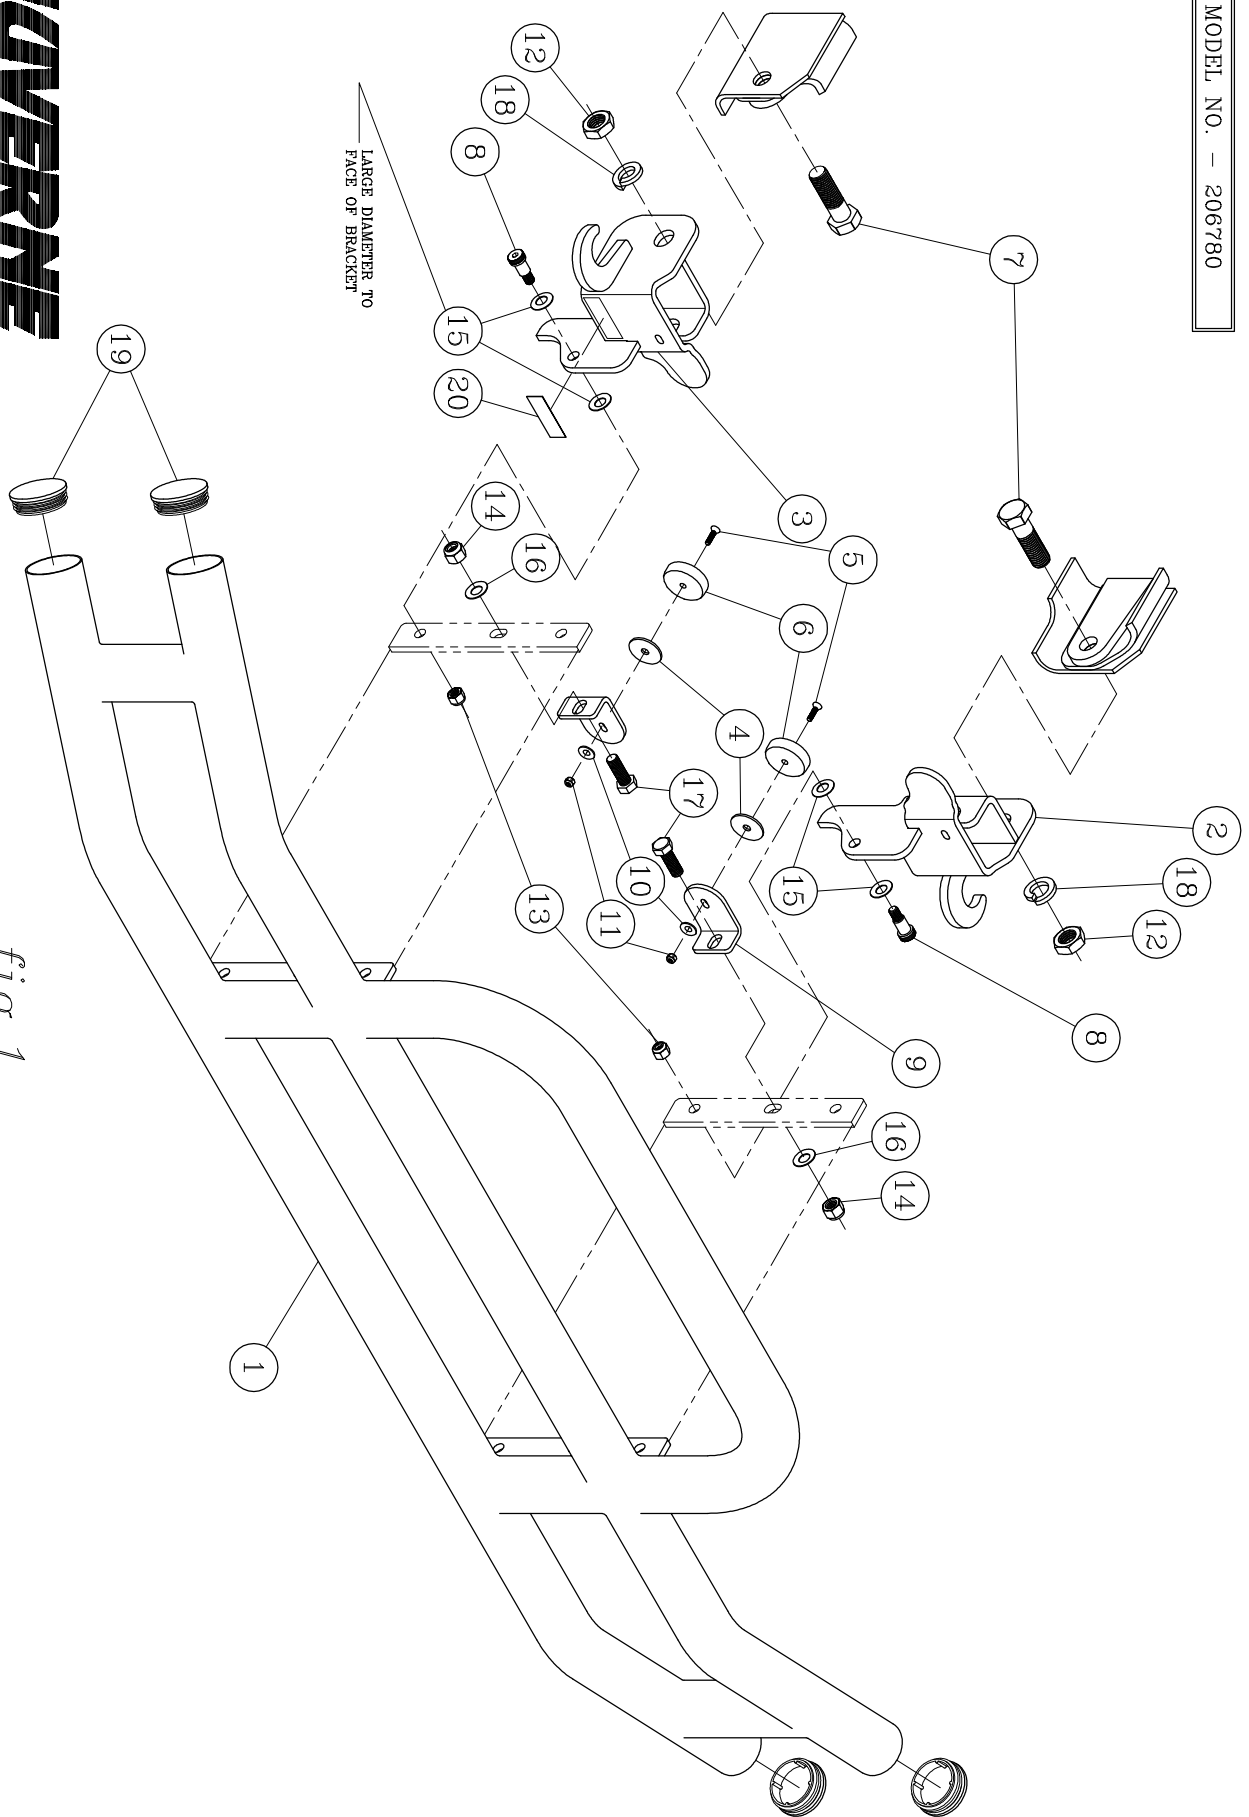

fig. 1
3. USING THE 5/8"-11 X 1-3/4" BOLTS (ITEM #17), AND 5/8"-11 NYLOCK NUTS (ITEM #14), AND 5/8" FLAT WASHER (ITEM #16), ATTACH MAGNET & MAGNET BRACKET (ITEM #6 & 9) TO THE MOUNTING BARS OF THE GRILLE GUARD, AS SHOWN IN FIG 1.
5. HOLD THE GUARD UP TO THE FRAME AND INSTALL THE 1"-8 X 3-1/4" BOLTS (ITEM #7), THROUGH THE OUTSIDE OF THE BRACKET AND THROUGH THE FRAME. INTALL THE 1" LOCK WASHERS (ITEM #18) AND 1" HEX NUTS (ITEM #12), AS SHOWN IN *fig. 1*. TIGHTEN THE BOLT.